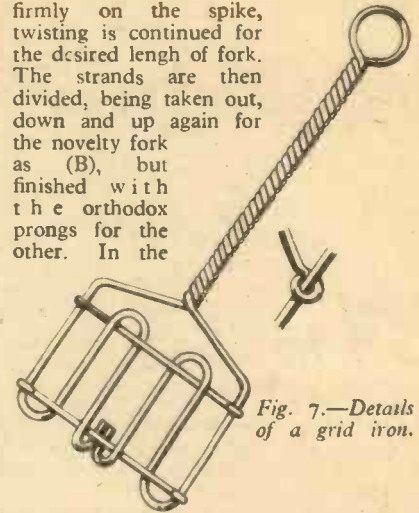

Fig. 7.—Details of a grid iron.
Details of this are given in Fig. 7. The method of construction is the same as for the toasting fork, using the spike as shown at (A) in Fig. 6. One piece of wire is used and the two ends are finally held firmly by one of the two horizontal pieces which are added afterwards as shown.